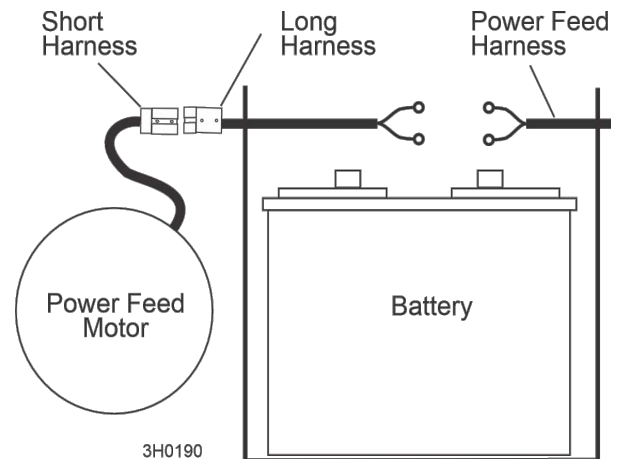

FIG. 1-9
5. Route the harness cable through the motor cover grommet. **See Fig. 1-9.**
13. Route the long harness through the battery box as shown in FIG. 1-9.